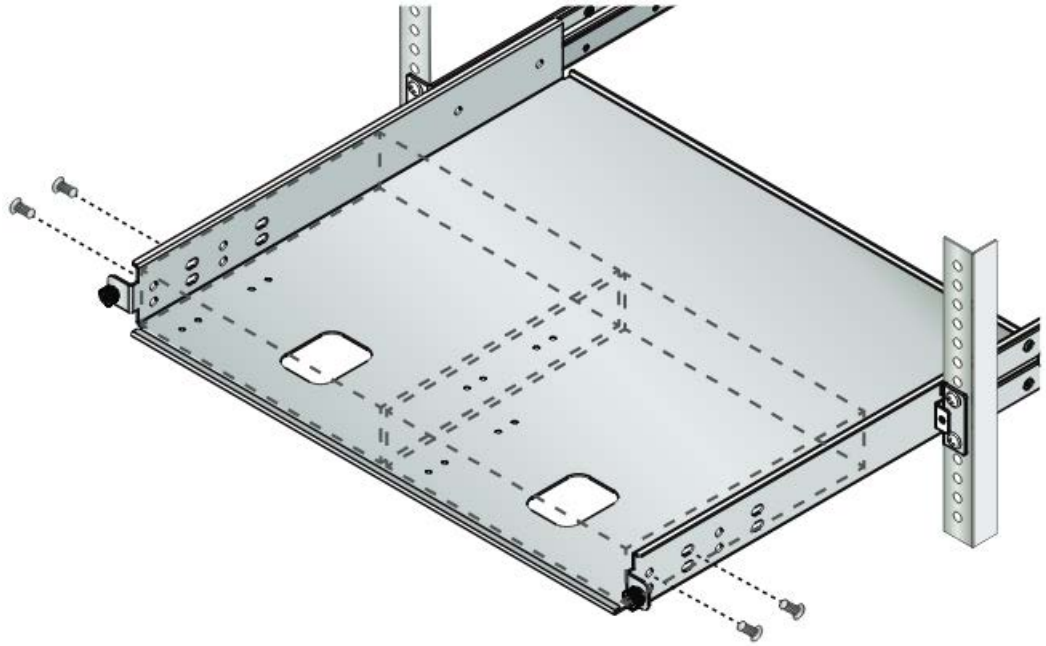

Figure 41. Placing the Switch in the RKMT-J15 Tray
5. Place a switch in the tray and secure the switch to the tray with the head screws through the holes on the slide rail weld. See Figure 41 on page 75.